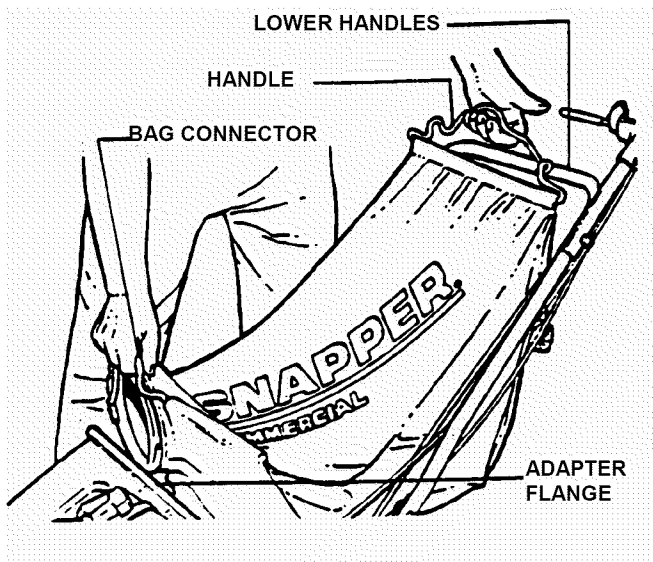
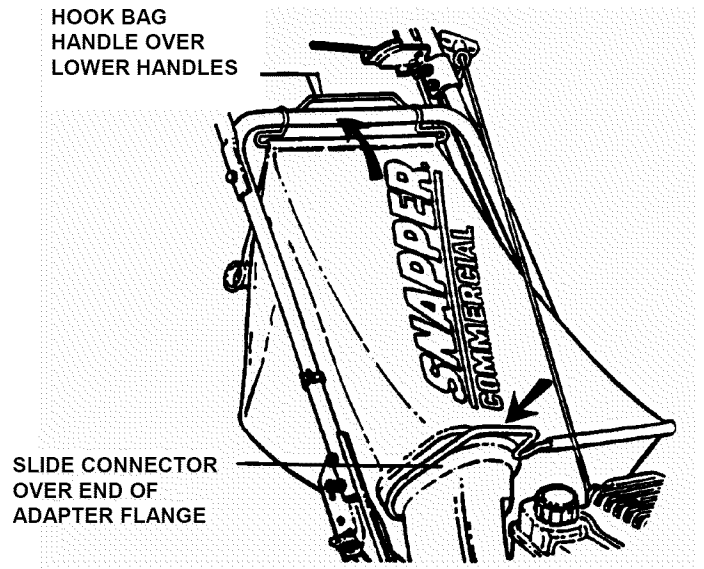

FIGURE 2.13
FIGURE 2.14
1. Position grass bag between handles. See Figure 2.13. Install grass catcher by sliding connector over flange of adapter. Attach grass bag hooks over middle handle cross bar. See Figure 2.14.
1. Grasp bag connector and bag handle as shown. See Figure 2.13.